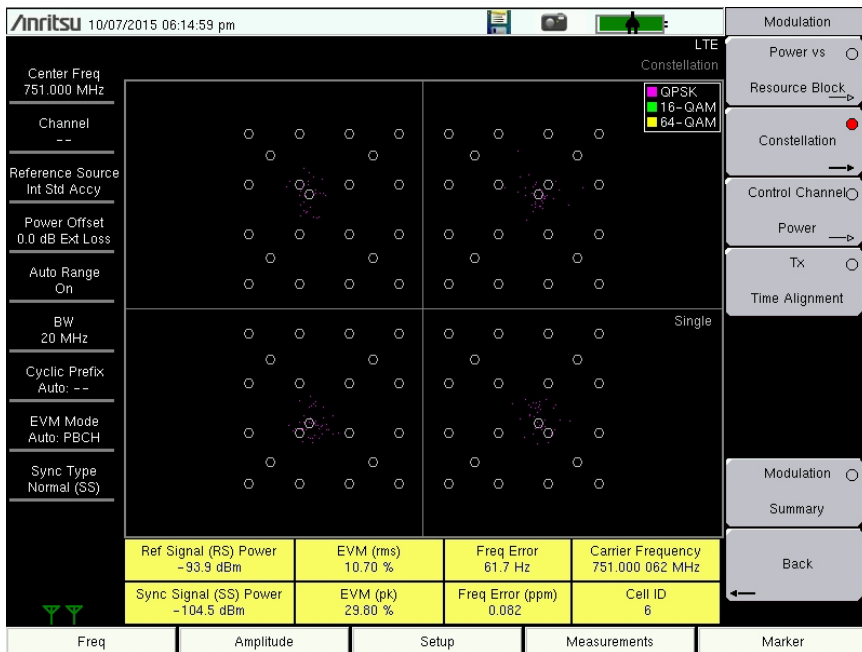

Figure 5-7. Constellation Measurement View
This measurement displays the constellation of the demodulated symbols over the first sub-frame and a results table of the measurements described below. See Figure 5-7 on page 5-12.
3. Press the **Constellation** submenu key to activate the Constellation measurement view (Figure 5-7). Press the **Constellation** submenu key again to list the Constellation menu and set up the reference points and data legend.